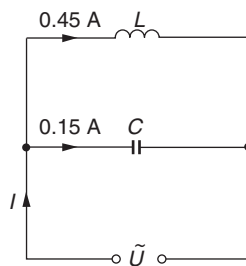

Fig. 58
1. Determine the current I in Figure 58 and state whether it leads or lags the voltage U .